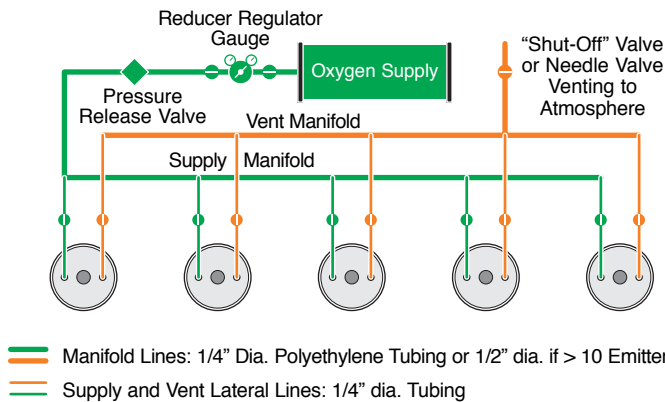

Figure 1
Alternatively, the system vent line can be configured utilizing an adjustable flow needle valve. This allows a small flow (1-2 ml/min) of remediation gas constantly through the units, to passively purge the system. A constant purge of gas at 1-2 ml/min does not significantly increase overall gas usage. (See Figure 1 for gas supply connection guidelines.)
6. Referring to Figure 1, make sure the vent line valve or needle valve is closed and make sure all other valves are open. Set pressure regulator to the appropriate operating pressure.